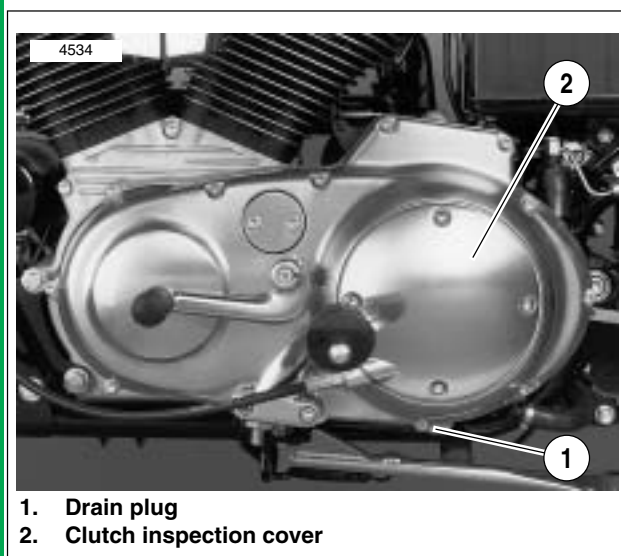

Figure 1-23. Primary Cover
2. See Figure 1-23. Position a suitable container under transmission lubricant drain plug (1). Remove drain plug and drain lubricant.